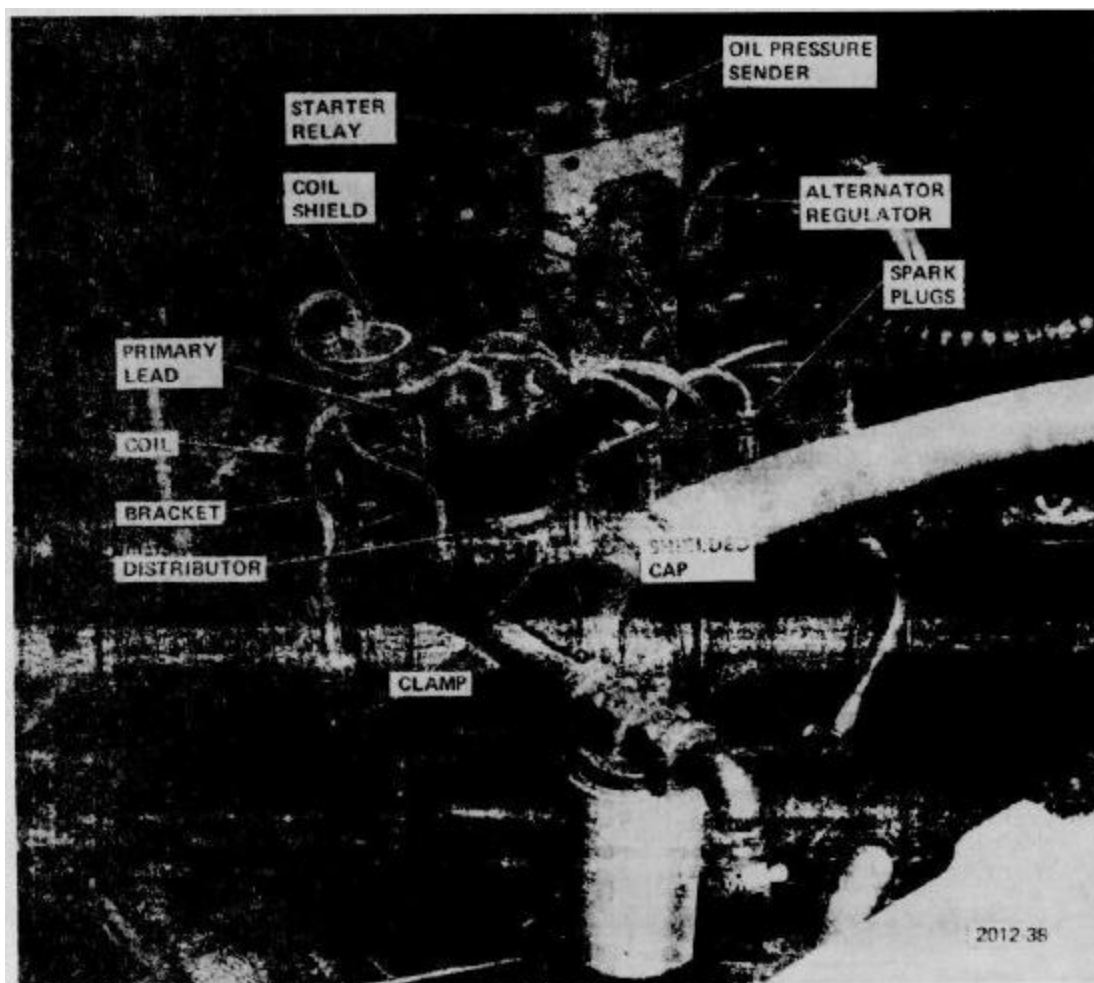

Figure 6-3. Engine Mounted Electrical Units
3. Disconnect the primary lead (see figure 6-3) at the distributor, loosen the clamp bolt which holds the distributor and lift off the distributor.
6-58. ENGINE MOUNTED ELECTRICAL COMPONENTS, REMOVAL AND INSTALLATION. These units not previously covered are shown in figure 6-3. Since all attaching parts and connecting leads are exposed, and no special techniques are involved, remove and replace them using the obvious procedures.